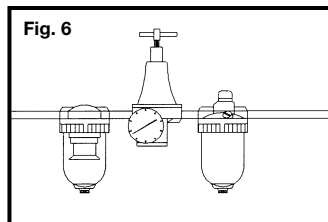

Fig. 6
**8. Use clean, dry, regulated, compressed air** at 70 to 120 PSI, (4.8 to 8.3 BAR). Fig. 6.